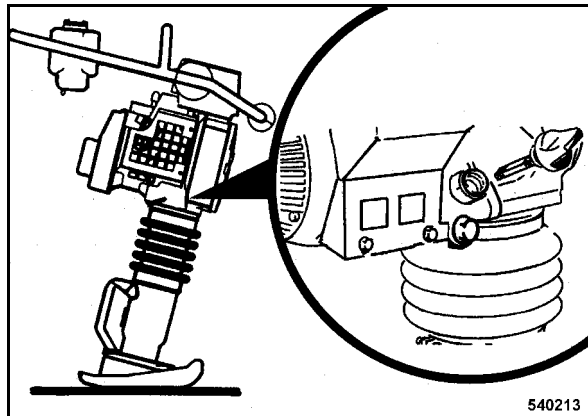

Fig. 37
- Remove the oil dipstick (Fig. 37).